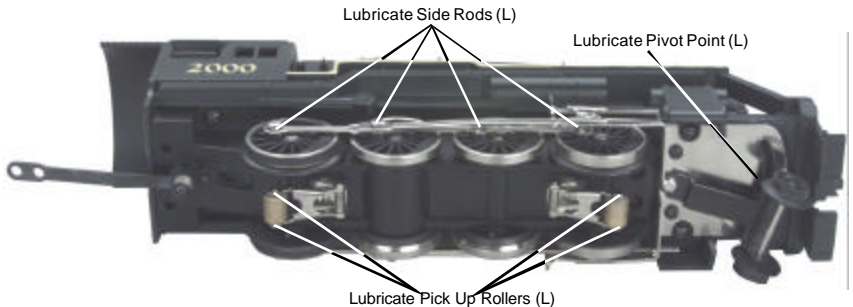
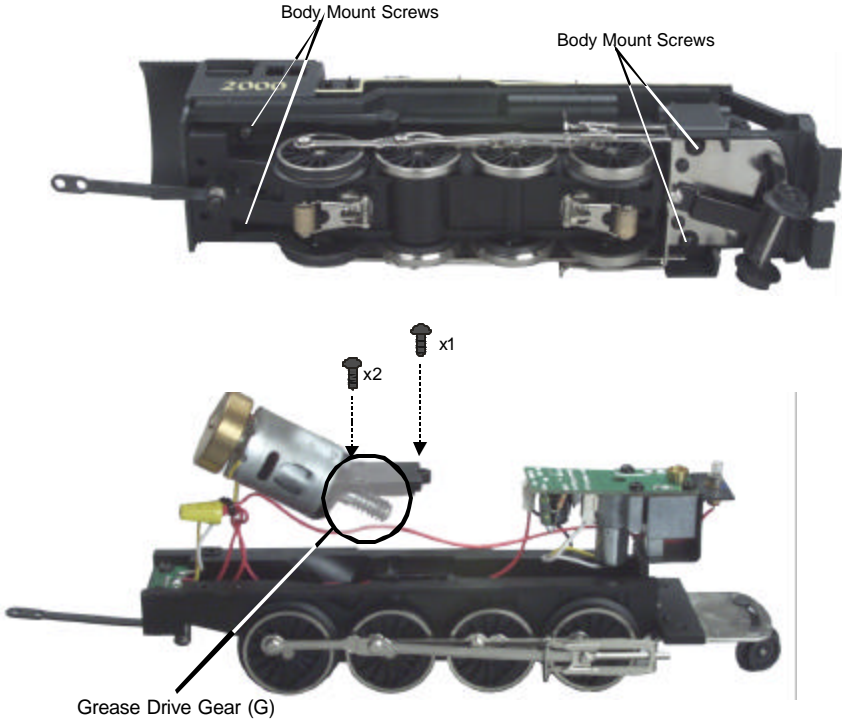
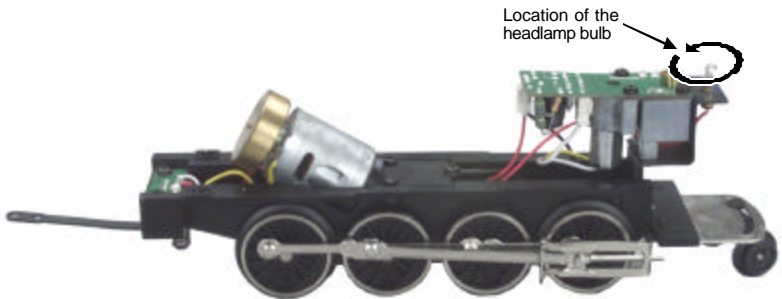

Figure 2. Lubrication Points on the Locomotive
Figure 3. Locations of the Body Mounting Screws and Adding Grease to the Gear Box
Figure 4. Replacing the Locomotive's Headlamp
- You should lubricate all side rods and linkage components and pickup rollers to prevent them from squeaking. Lightly grease the outside idler and drive gears (marked “G” in Fig. 3 on page 7) to prevent them from squeaking. Use light household oil and follow the lubrication points (marked “L” in Fig. 2 on page 6). Do not over-oil. Use only a drop or two on each pivot point.
Before operating the locomotive, apply a small drop of oil to lubricate the side rods and pick up rollers. Use light household oil and apply sparingly only to the points indicated by Figure 2. Wipe away any excess, especially if oil spills onto the finish of the locomotive. To prevent accidental scratches or other damage to the locomotive shell while you are working, you may want to place the locomotive in a repair cradle or an old towel or other cloth folded to provide a firm but soft resting place.
Grease should be added to the internal drive gears annually or after every 50 hours of operation. Grease can be added by inserting grease into the gear box inside the locomotive chassis. In order to access the gear box, the boiler must be removed from the chassis by unscrewing the four chassis screws as seen in Figure 3 below. Once the boiler is removed, the gear box can be opened up by unscrewing the three screws on the plate located in front of the motor. Grease can then be applied into the gear box using a grease tube dispenser.
To remove the 2-8-0 locomotive boiler from its chassis, follow the body removal instructions (see figure 3). Once the body has been removed, rotate the headlight bulb counter-clockwise as seen in Figure 4 to remove.